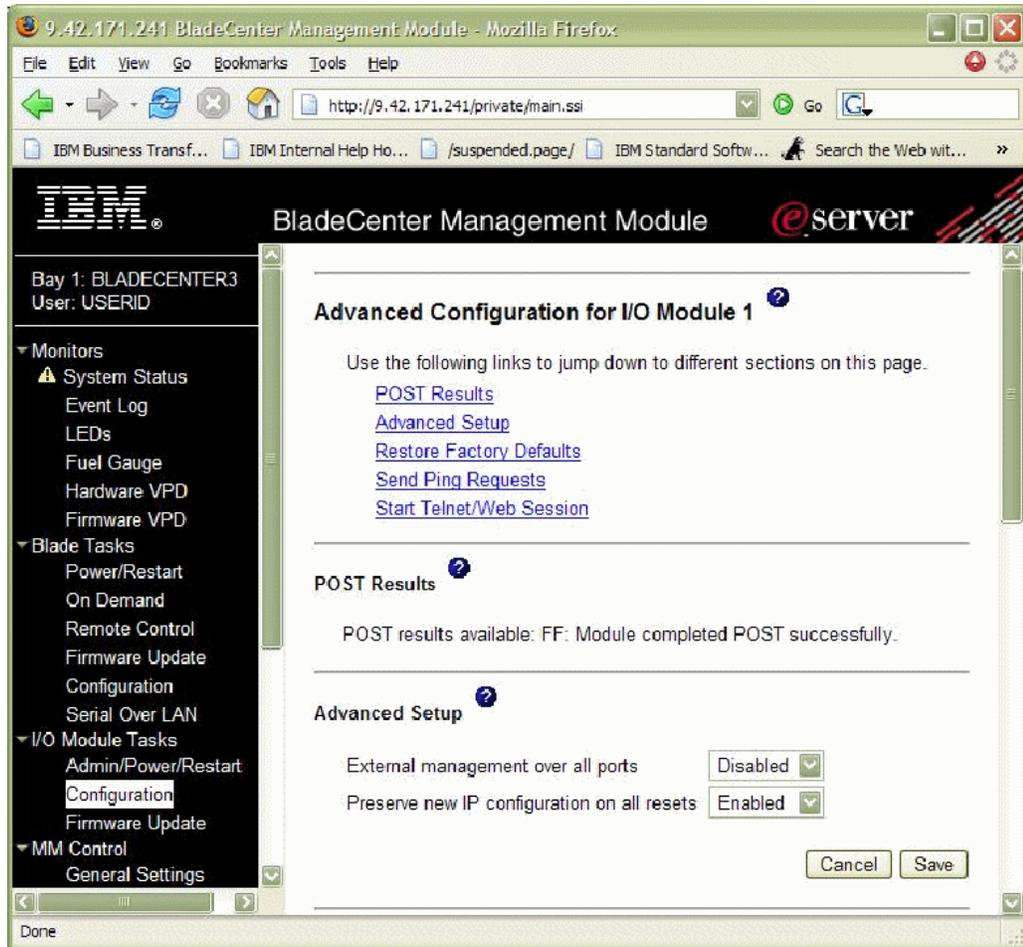

Figure 2-3 BladeCenter Management Module - configuration window
- b. Verify and confirm that the *external ports* for I/O modules are set as enabled. From the BladeCenter Management Module window, click **I/O Module Tasks** → **Configuration**, as shown in Figure 2-3.